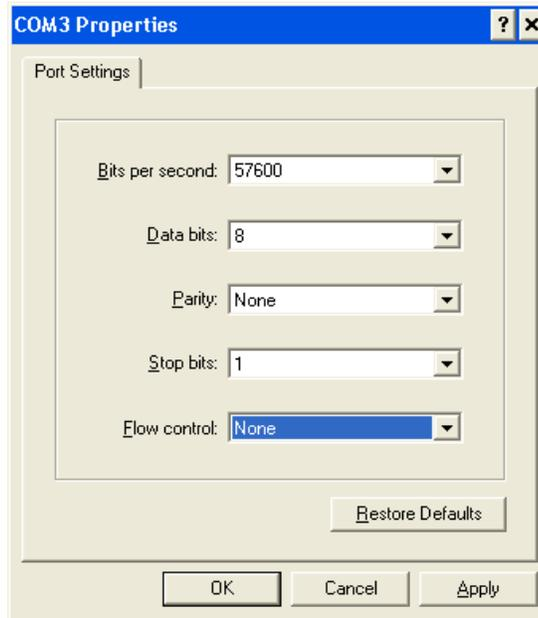

Figure 4: HyperTerminal Port Settings
4. The COM3 Properties window is displayed. Select the following settings (Figure 4):